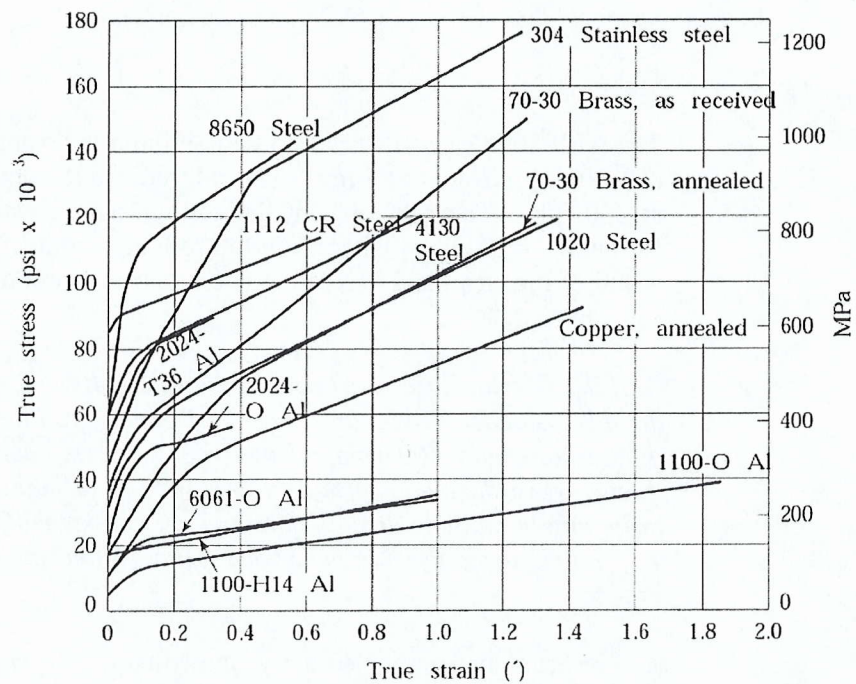

Figure 5/Gambarajah 5
- (iv) Calculate the torque needed. Remember, *torque per roll* is a product of F and a . (Use **Figure 5** to read the true stress of 1020 steel)